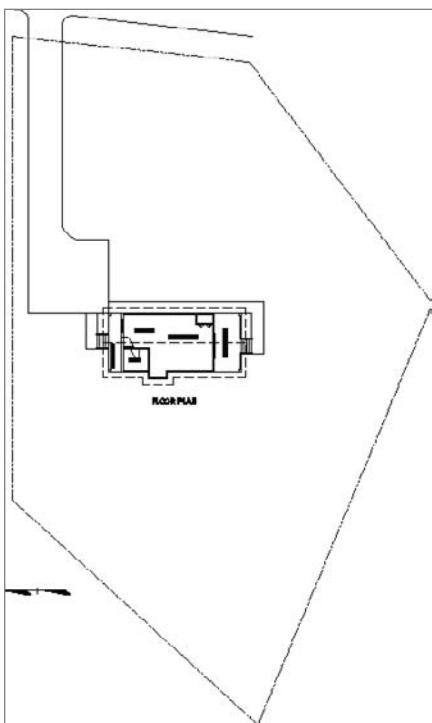
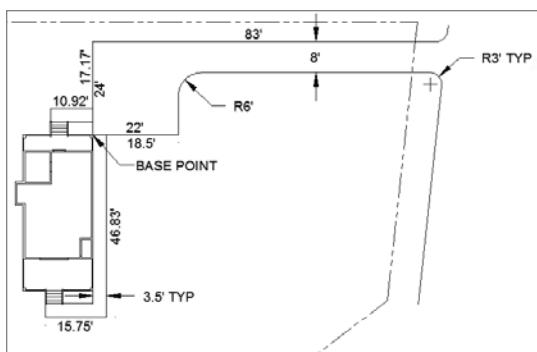
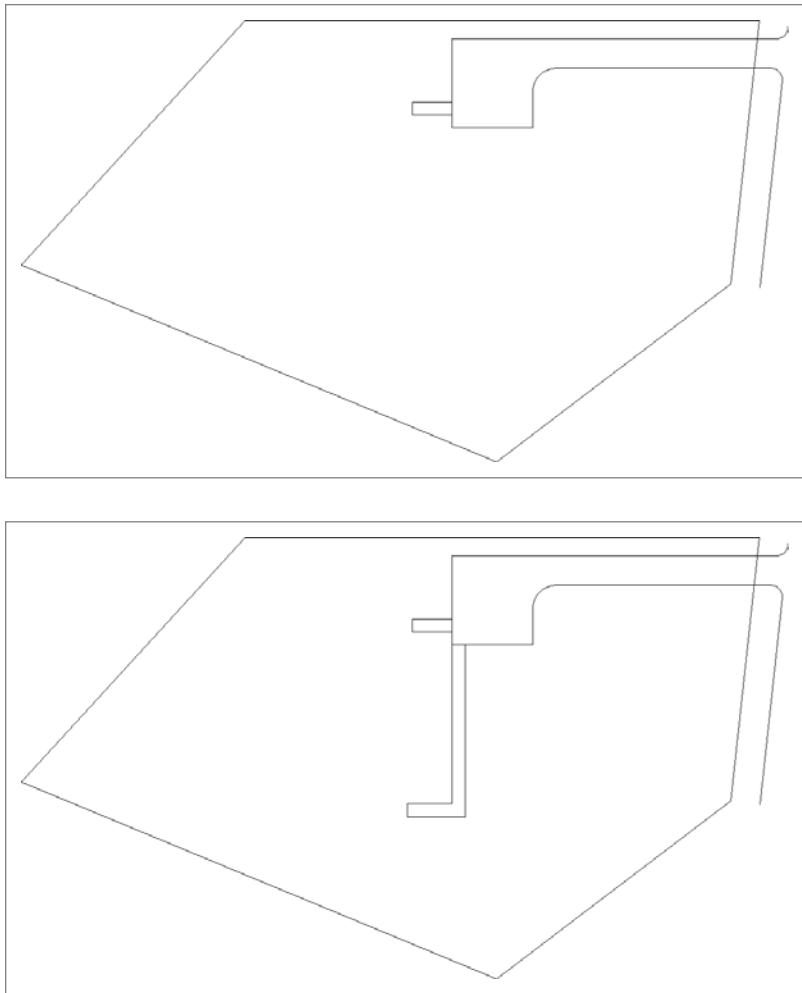
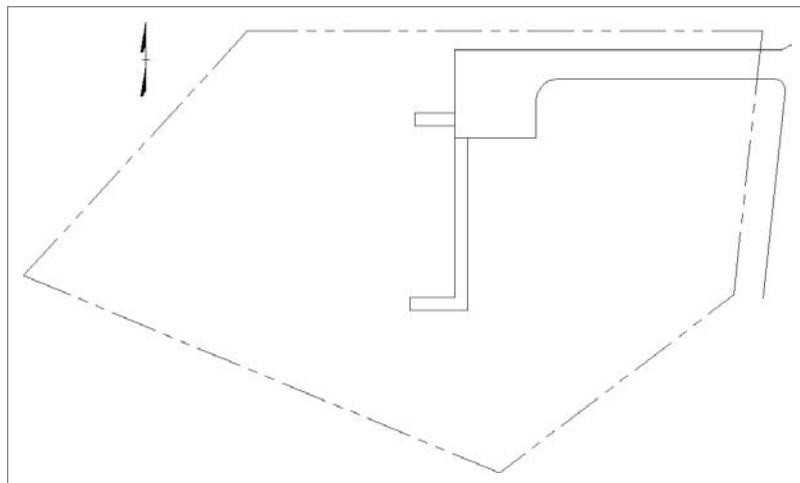

FIGURE 13.1 The cabin with the site plan as an external reference
FIGURE 13.8 The driveway and patio lined up with the cabin
FIGURE 13.10 The first sidewalk (top) and the second sidewalk (bottom)
FIGURE 13.11 The completed site plan
Before you set up the xref, you'll create a site plan for the cabin. You'll then externally reference the site plan drawing into the cabin drawing. In Figure 13.1, the lines of the site plan constitute the xref, and the rest of the objects are part of the host drawing. After these exercises, you'll look at a few ways that design offices use external references.
A key element of any site plan is information that shows how the building is positioned on the site relative to the property lines. Surveyors stake out property lines. After staking out the property lines, the surveyor will then begin staking building offsets. They are generally placed at critical building corners and used by the contractor to begin constructing the building. In this site, you need only one corner because you're assuming the front door of the cabin is facing due east. A close look at Figure 13.1, shown earlier in this chapter, shows that the end of the driveway lines up with the top-rear corner of the cabin. Extending from the driveway are sidewalks that run to the front and rear steps. This locates the cabin on the site (see Figure 13.8).
See the top of Figure 13.10. You can refer back to Figure 13.8 to see the dimensions if necessary.
9. The bottom of Figure 13.10 shows the completed side and front sidewalk. Press ↵ to end the command.
3. From the Insert dialog box, make sure Insertion Point is the only property set to Specify On Screen and click OK. Place the block in the upper-left quadrant of the plan just outside the property line as shown in Figure 13.11.
Type **BASE.↓** and click the lower-left corner of the driveway. Refer to Figure 13.8 if necessary. Your drawing should look like Figure 13.11.